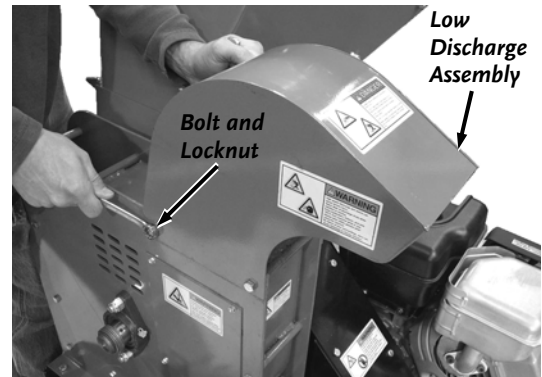

Figure 47
1. Remove the two Bolts and Locknuts from the Low Discharge Assembly with two 1/2" wrenches (**Figure 47**).